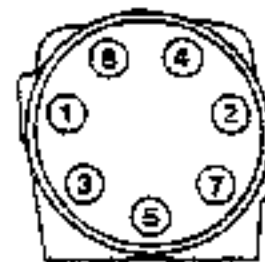

Figure 26
27. Install 7 dry cap screws in end cap. Pre-tighten screws to 150 inch pounds, then torque screws to 275 inch pounds in the sequence shown in Fig. 26.